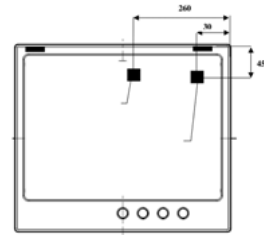

Fig. 1
- Before installing the hotplate considers the location of the gas supply and routing the gas line. (Refer Fig. 1)